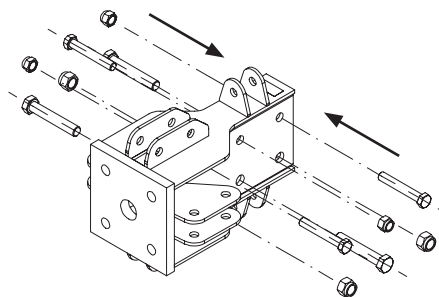

Fig. E1.05a
3. Fit the VST components with the connection means again. (Fig. E1.05a + E1.05b)